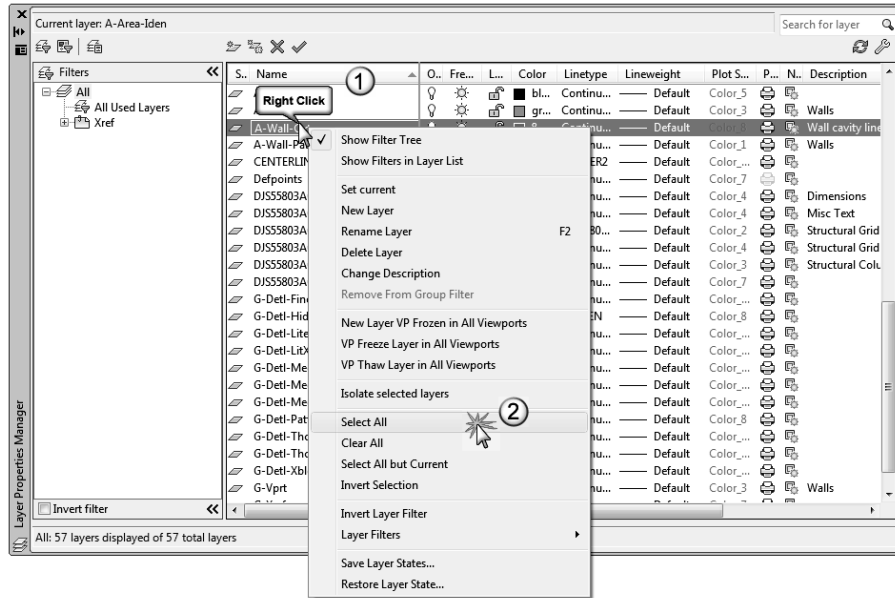
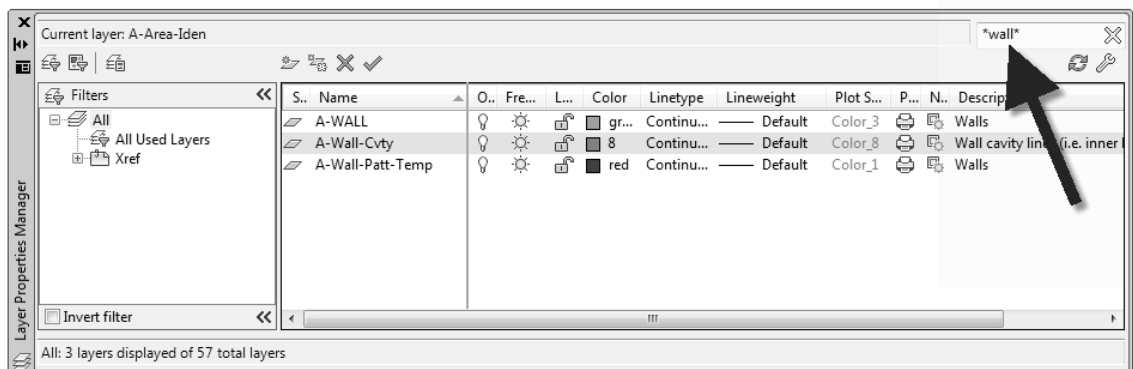

Figure 4-5.5 Layer Manager; right-click and pick “select all”
Figure 4-5.6 Layer Manager; search for “wall” layers
- Another method is to open the *Layer Manager* and right-click on any *Layer* name and click "**Select All**" from the pop-up menu. Then you can click any *Layer* icon that is "off" and all *Layers* will be turned "on" (see Figure 4-5.5).
Take a moment and notice the other tools available in the right-click pop-up menu shown in Figure 4-5.5.
In the text box in the upper right of the *Layer Manager* (that has the light gray words “Search for layer”; see Figure 4-5.5) you can type something like ***grid*** and see only the *Layers* that have the letter/word “grid” in them (e.g., A-Grid, A-Grid-Iden, DJSAGD01|S-Grid, etc). See Figure 4-5.6 below for an example where only the *Layers* with the word “**wall**” are listed.